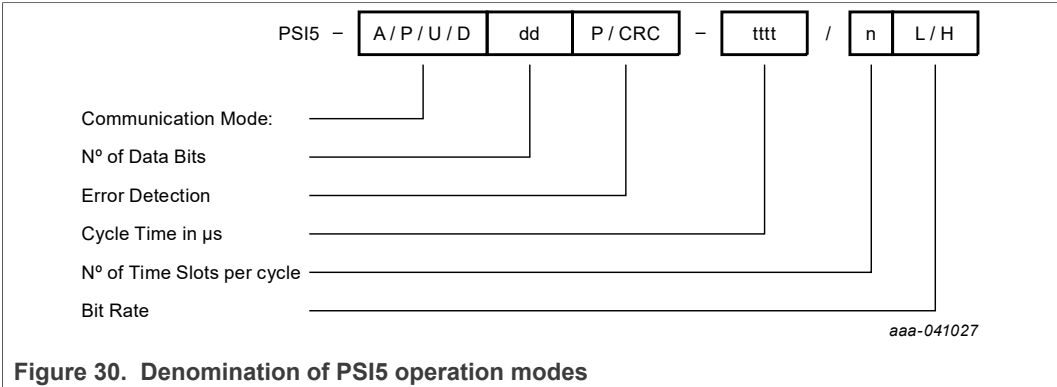

Figure 30. Denomination of PSI5 operation modes
PSI5 supports both synchronous (P) and asynchronous (A) modes. Figure 30 provides a visual summary of the PSI5 operation modes and Table 4 provides details for each field.